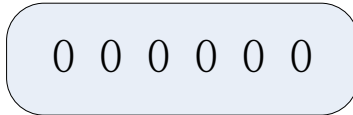

Fig. 10.2 Editing Procedure for Numerical Values
- 4) When display shows "F3.2", place the test weight on the scale and press  to enter the test weight value. Follow Fig. 10.2 to input the test weight value, then press  to save the value. The indicator will go to the next menu. Display will show "F3.3".
- 2) Press  until the display shows “F3” (see Fig. 10.2). Press  to go to zero calibration mode. Display will show “F3.1”.
- (3) Press key when display shows “F5.2”. Enter your desired item code for this counted items average weight settings that we are going to set. The code number will be saved in the memory and will correspond to this counted items average weight settings. The code numbers are from 01 to 99. Previously saved settings will be overwritten if you enter the same code. The code “00” is reserved for Fast Setup of Counted Items Average Weight ( refer to Section 7.5.8 ). Follow the procedures in Fig. 10.2 to input and edit the code number. Press to save the code number and proceed to the next menu. The display will show “F5.3”.
- (4) Remove all the weight from the scale platform when display shows “F5.3”. Press to start zero calibration. Display is showing “CAL”